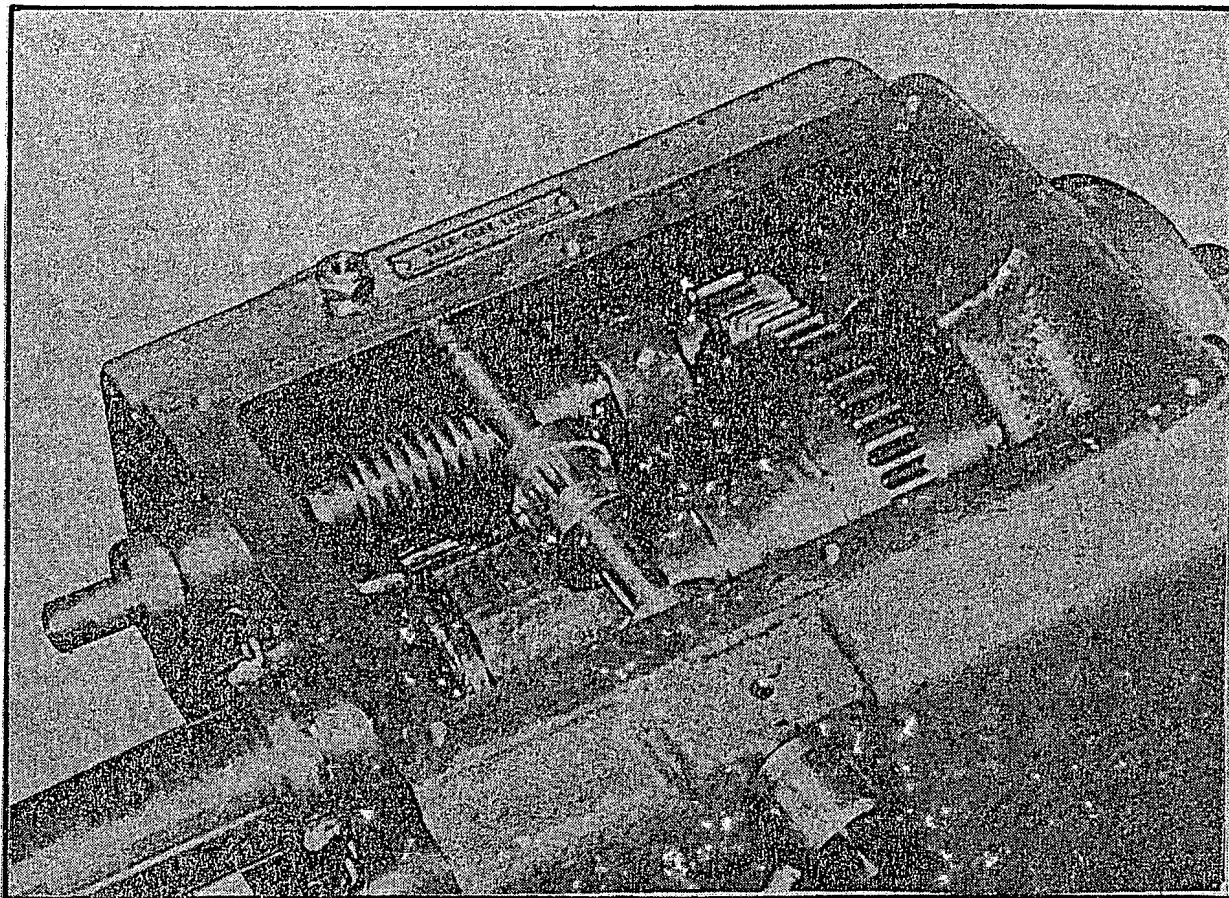

Figure 27 Illustration of headstock with cover removed showing spindle and gears.
57. Then move control lever C-281 to left as far as it will go. You should feel the ball pop into the lefthand drilled hole on face of C-354 bushing, when C-305 sliding yoke has been shifted as far to left as it will go. See Fig. 27 for view of headstock assembled up to this point. If the C-281 lever will not move C-305 sliding yoke over as far as it should go, it will be necessary to reposition the C-304 gear in rack teeth on C-305 sliding yoke. Repeat this adjustment by shifting C-281 as far to right as it will go to make sure that C-305 sliding yoke will slide over to right against C-349 collar. When it is in this position, the ball in C-307 hub should drop into drilled hole in righthand side of C-354 bushing. When these adjustments have been completed, tighten set screws in No. C-304 gear and in all three of the C-353 collars.